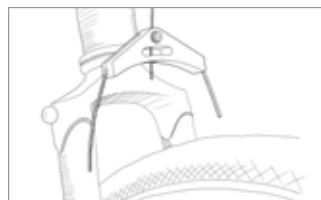

Figure 5
5. Check your cable carrier height: verify that braking does not interfere with the tire or fender. Adjust the height of the cable carrier, as needed. Tighten the pinch bolt in the cable hanger to firmly hold the cable in place. Figure 5 shows an example of appropriate carrier height, which is approximately 40–50mm.